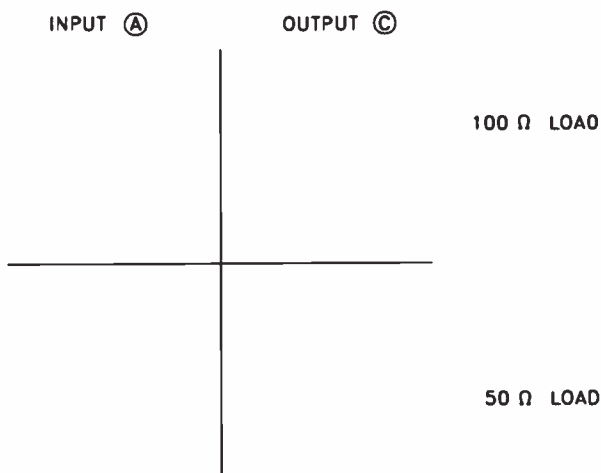

Figure 6-4. For the IC series regulator experiment, enter your measured values in this voltage chart.
Step 10. Set your digital multimeter to measure about 50 V and measure the voltage at point A. This is the input to the regulator circuit. Note that you can vary this voltage from less than 2 V to about 20 volts. For now, set it to about 15 V and leave it there. Record your reading in the top-left corner of Figure 6-4.
Step 11. Set your digital multimeter to measure about 10 V and measure the voltage at point C. This is the input to the regulator circuit. Since the regulator circuit uses a 7805 IC, you should find nearly a regulated voltage at point C. Record your reading in the top-right corner of Figure 6-4. Use this reading to answer Examination Question 6.
current, since it's the same value as the original load resistor. Again, measure the voltage at point C and record your reading in the bottom-right corner of Figure 6-4. If the regulator is working, the voltage won't change much when you add the extra load.
Step 13. Measure the input voltage at point A and record your reading in the bottom-left corner of Figure 6-4. Since the Discovery Lab's adjustable dc outputs are regulated, you shouldn't notice any difference with or without the extra load resistor. This shows that the regulator has excellent load regulation.